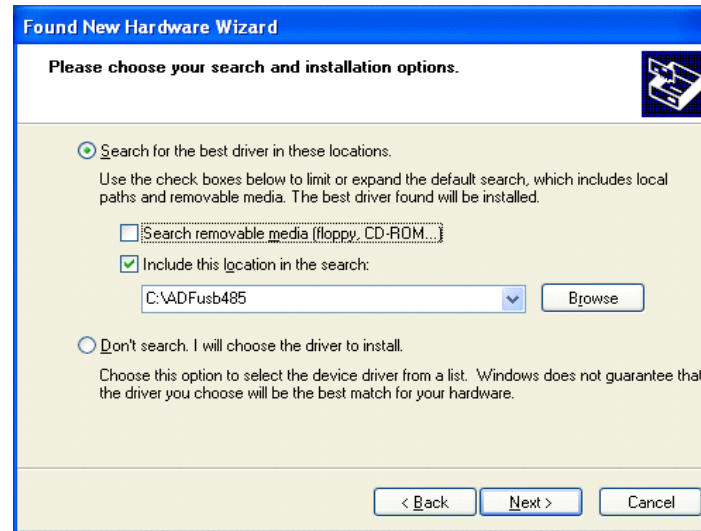
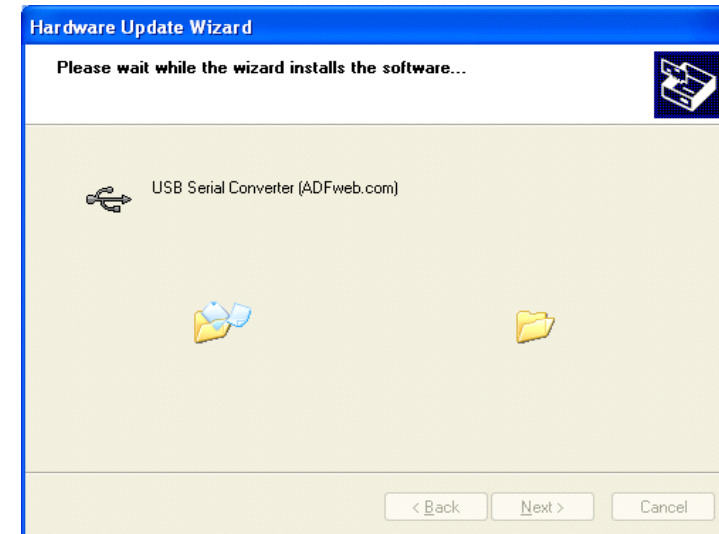

Figure 4: “Found New Hardware Wizard” window
Figure 5: “Hardware Update Wizard” window
4. Leave the “Include this location in the search:” box checked and insert the folder where the drivers were formerly downloaded from the site www.adfweb.com (or select by pushing the button “Browse”); then push the button “Next >” (Fig. 4) and wait for the installation of the software (Fig. 5);